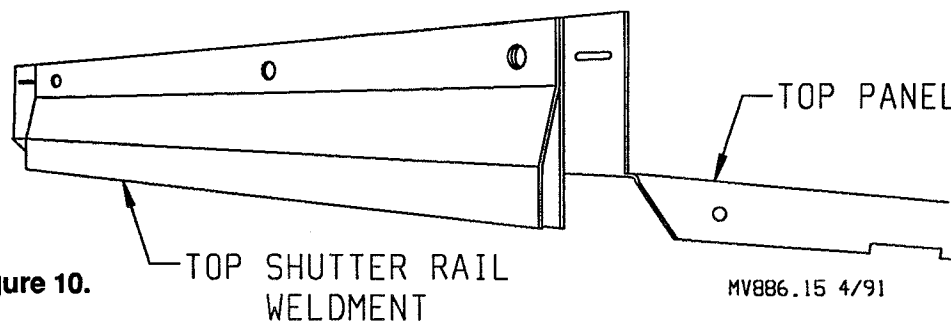
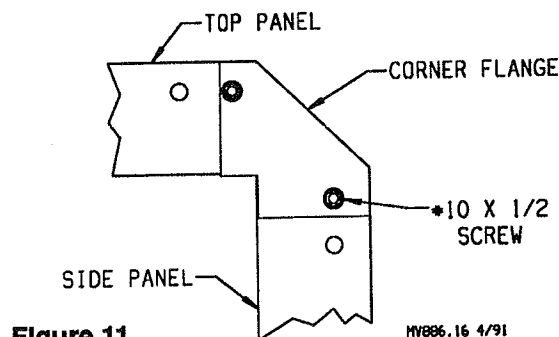

Figure 10.
Figure 11
☆ 24. Align holes of top shutter rail weldment over mounting flange holes of top panel (see Figure 10). Secure both top panel and rail weldment to 2" x 6" wood framing with three (3) 5/16 x 2 wood lag screws.
- ☆ 25. Align holes of bottom shutter rail over mounting flange holes of bottom panel. Secure both bottom panel and rail to 2" x 6" wood framing with three (3) 5/16 x 2 wood lag screws.
- ☆ 26. Align each of the two provided corner flanges in the left and right corners of the top panel and side panel mounting flange as shown in Figure 11. Drill two (2) #10 x 1/2 self-drilling screws through the pre-drilled holes in each mounting flange to hold corner piece in place.
- ☆ 27. To install shutter latches, hold each of the four provided spring latches over a pre-drilled pilot hole in the side mounting flanges. Secure each latch with one (1) #10 x 1/2 self drilling screw.